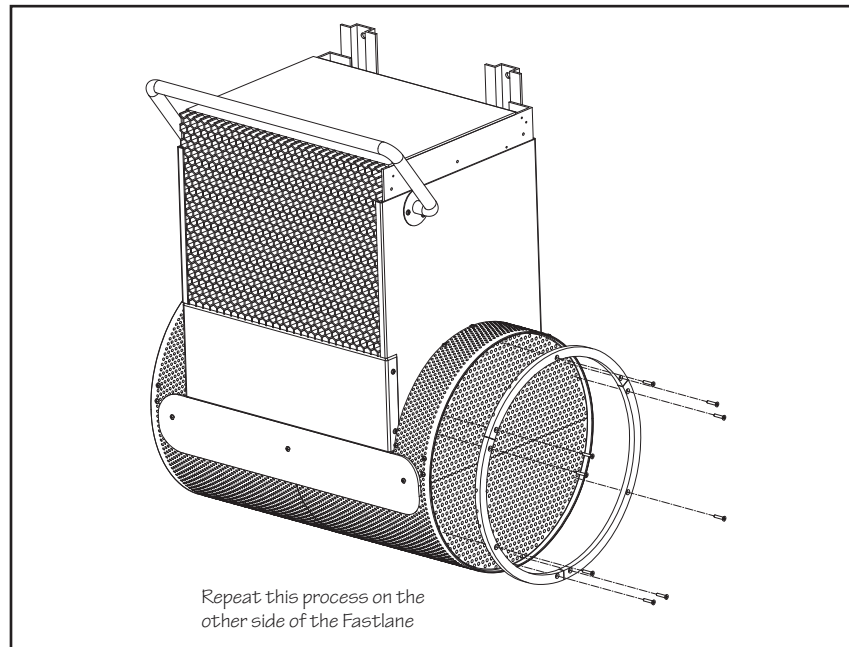

Fig. 6.11
- 6.13 Re-install the circular end caps. Make sure that the “smooth” surface of the end caps are facing out. If the stainless steel wire from the base to the end cap was removed, then it must be reattached at this time. Align the end caps to the internal PVC supports so that the holes in the internal supports are aligned with holes in the end caps. Position the arced cover strips over the end caps, making sure to align the hole in the arced cover strips with the holes in the stainless end caps and the internal PVC supports. Install the nine screws (3 per cover strip) that were removed in step 6.2. Repeat for the remaining end cap (Fig 6.11).